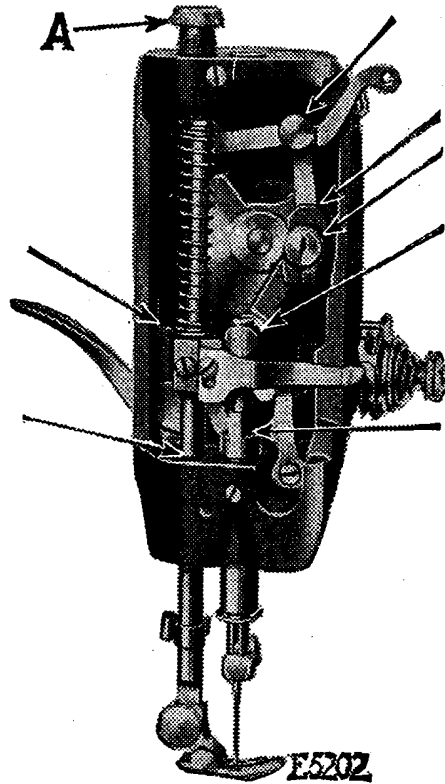

Fig. 29. END VIEW, SHOWING OILING POINTS
For ordinary family sewing, it is seldom necessary to change the pressure on the material. If sewing fine silk or flimsy material, lighten the pressure by turning the thumb screw (A, Fig. 29, page 29) on the top of the machine over to the left. To increase the pressure, turn this thumb screw over to the right. The pressure should be only heavy enough to prevent the material from rising with the needle and to enable the feed to move the work along evenly; a heavier pressure will make the machine run hard.
near the upper end of the face plate, then raise the plate and slip it off over the head of the screw (A). Put one drop of oil into each of the holes and joints thus uncovered, as shown in Fig. 29.